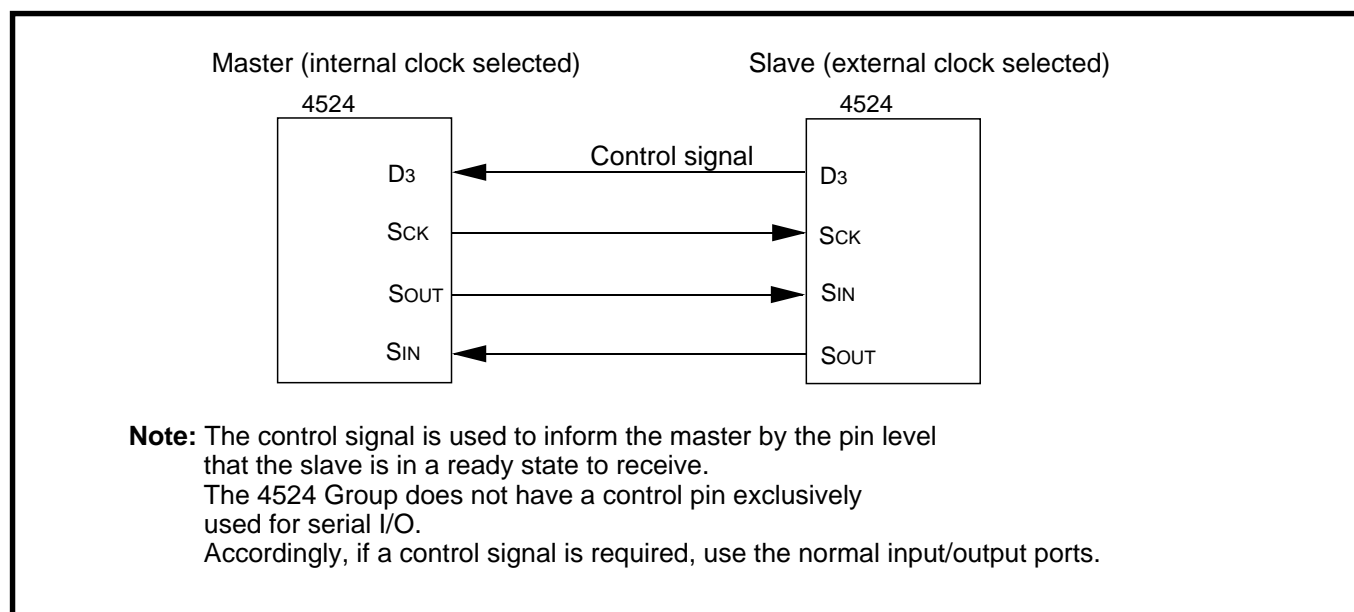
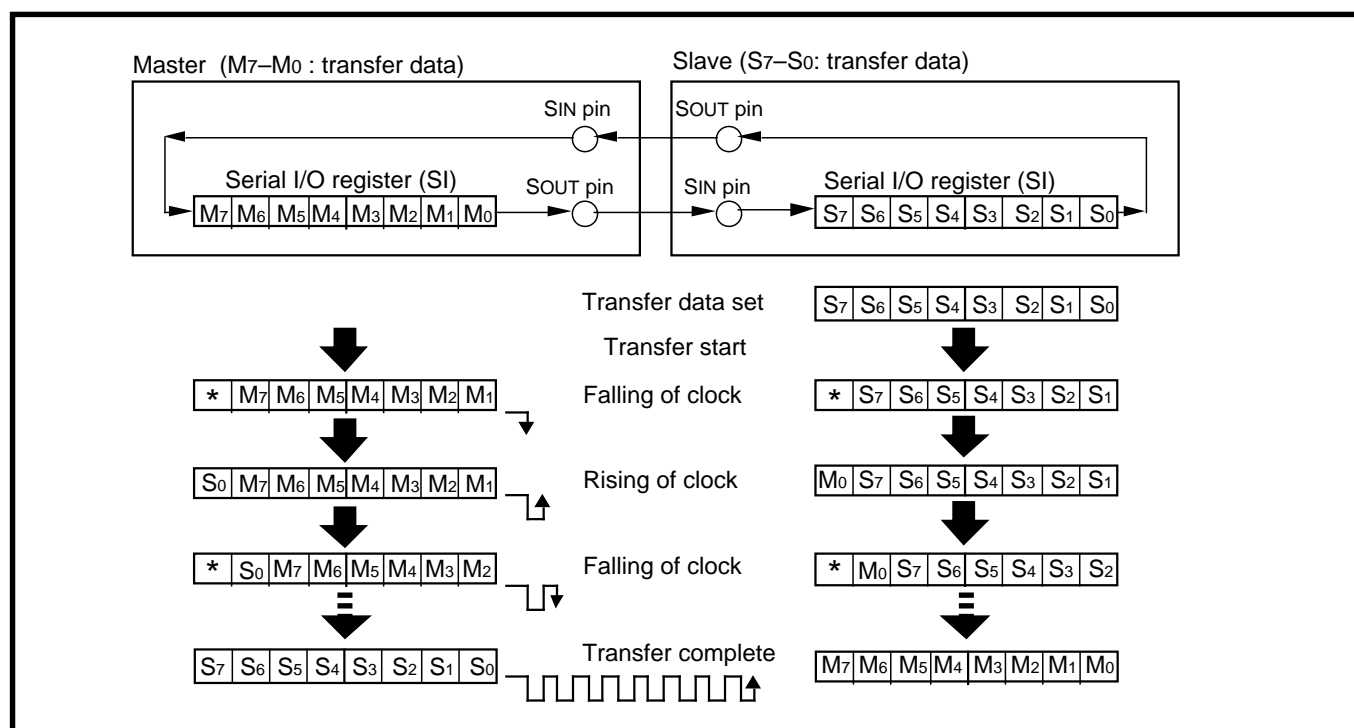
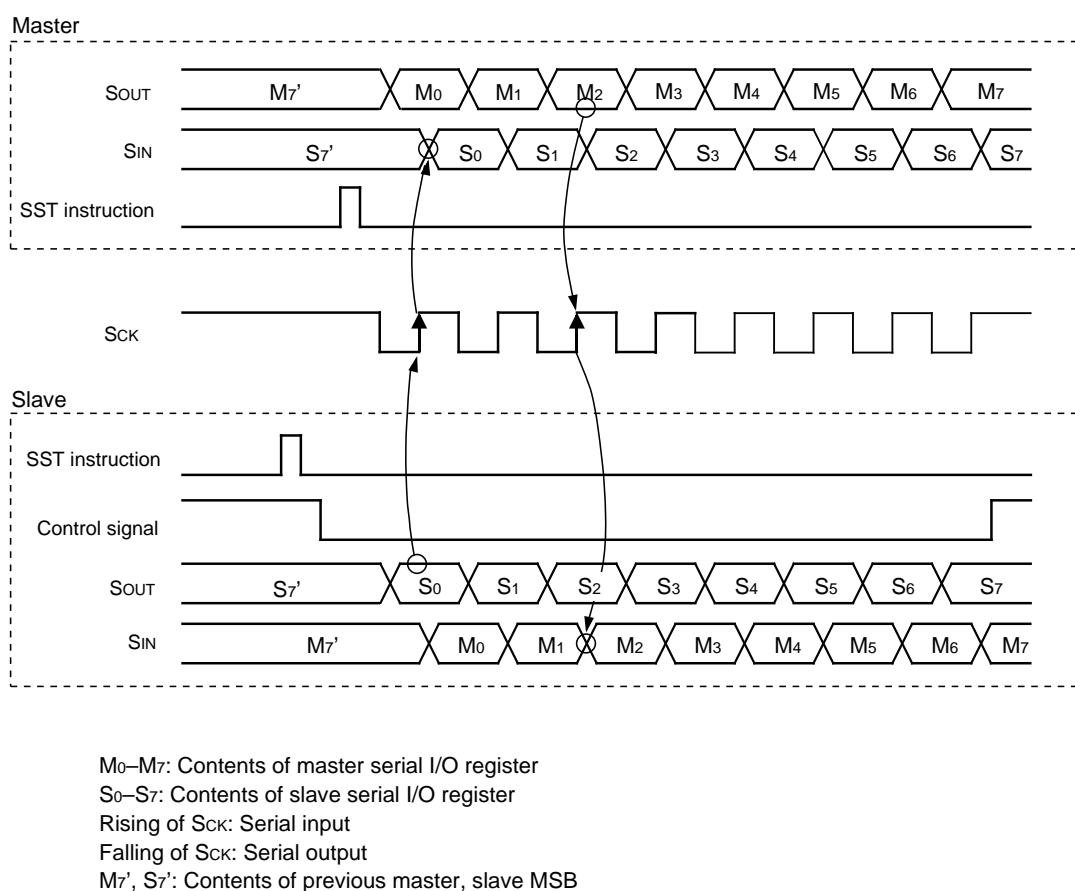

Fig. 2.5.2 Serial I/O connection example
Fig. 2.5.3 Serial I/O register state when transfer
Fig. 2.5.4 Serial I/O transfer timing
Figure 2.5.2 shows the serial I/O connection example, Figure 2.5.3 shows the serial I/O register state, and Figure 2.5.4 shows the serial I/O transfer timing.
The full duplex communication of master and slave is described using the connection example shown in Figure 2.5.2.
In the connection example in Figure 2.5.2, check that the input level of control signal is "L" level.
- ② Start serial transmit/receive with the **SST** instruction. However, in Figure 2.5.2 where an external clock is selected, transmit/receive is not started until the clock is input. When the **SST** instruction is executed, the serial I/O transmit/receive completion flag (SIOF) is cleared to “0.”
- ③ The microcomputer on the master side is informed that the receiving side is ready to receive. In the connection example in Figure 2.5.2, the control signal “L” level is output.
- ④ The transmit data is output from the SOUT pin synchronously with the falling edges of the shift clock.
- ⑤ The transmit data is output bit by bit beginning with the LSB of register SI. Each time one bit is output, the contents of register SI are shifted to one bit position toward the LSB.
- ⑥ Also, the receive data is input from the SIN pin synchronously with the rising edges of the shift clock.
- ⑦ The receive data is input bit by bit to the MSB of register SI.
- ⑧ A serial I/O interrupt request occurs when the transmit/receive is completed, and the SIOF flag is set to “1.”
- ⑨ Read the receive data within the serial I/O interrupt service routine; or read the data after examining the completion of the transmit/receive operation with the **SNZSI** instruction without using an interrupt. Also, the SIOF flag is cleared to “0” when an interrupt occurs or the **SNZSI** instruction is executed.
- ⑩ Set the control signal pin level to “H” after the receive operation is completed.
**Note:** Repeat steps ① through ⑩ to transmit/receive multiple data in succession.
**Specifications:** Figure 2.5.2 Serial I/O connection example.